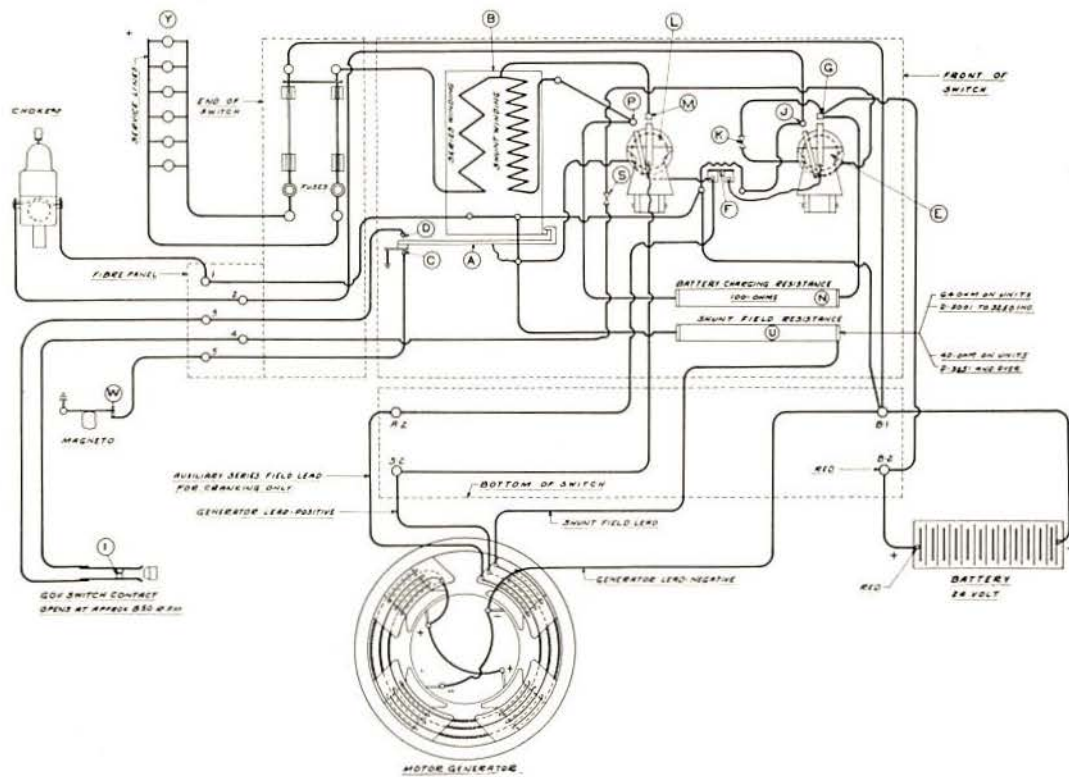
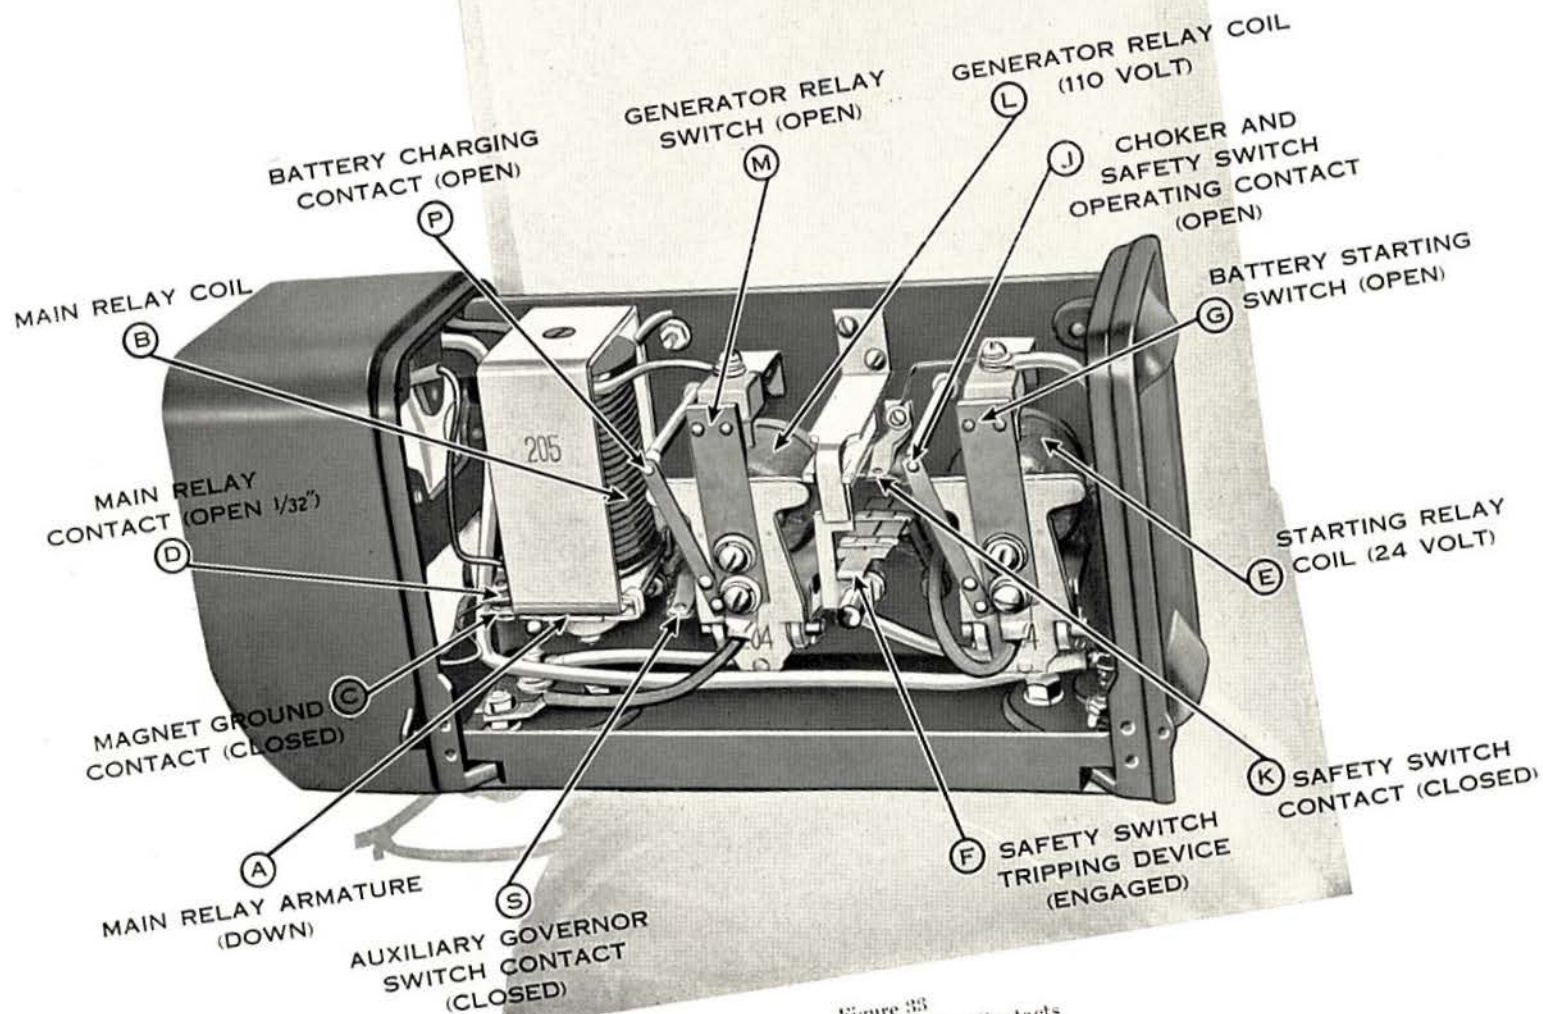
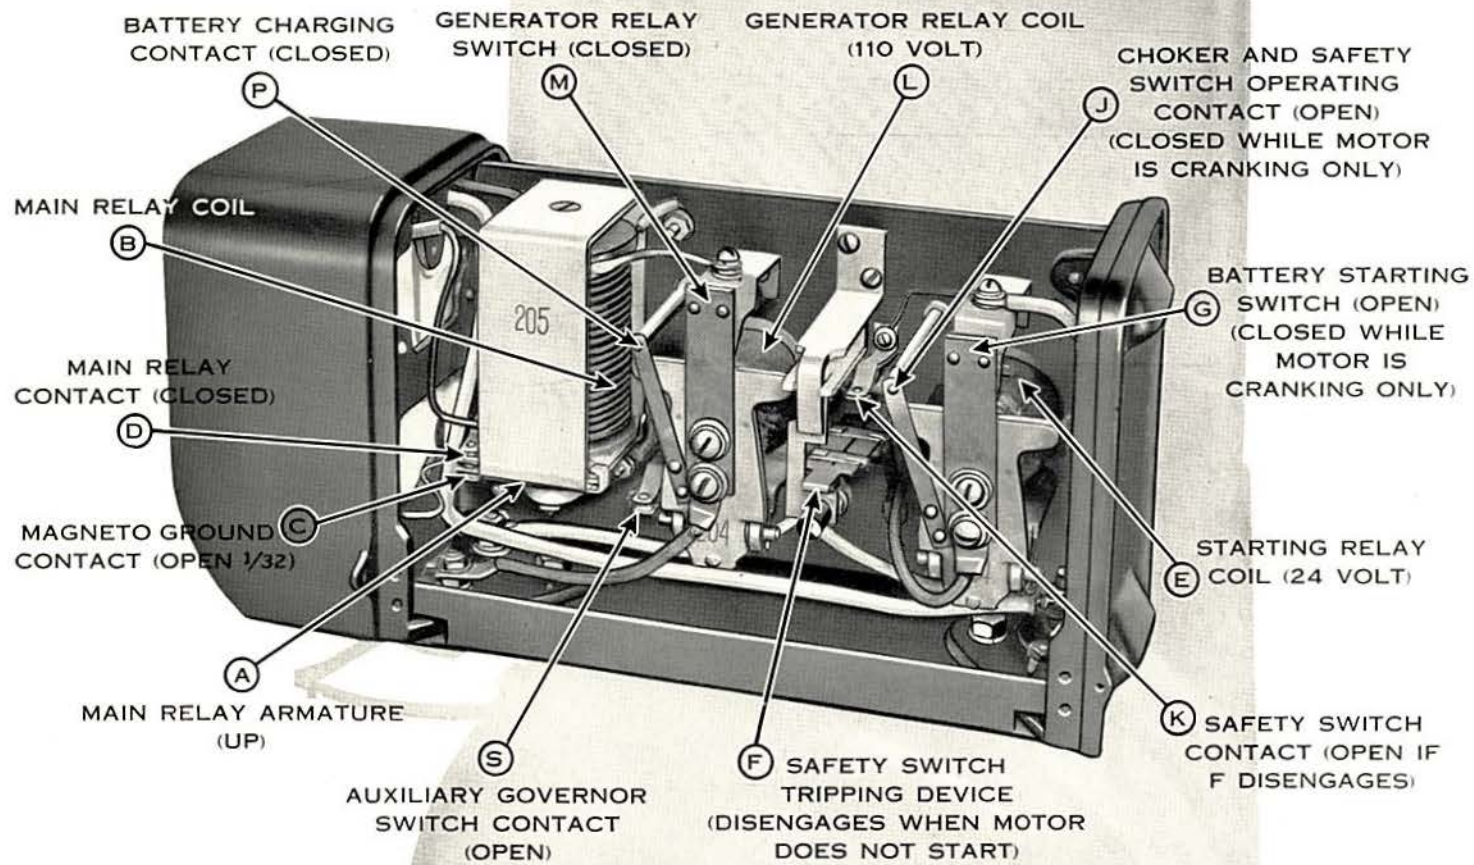

Figure 32
Figure 33
Figure 34
Figures 33 and 34 show the automatic switch with cover removed. The various coils, switches, contact points, etc. are indicated by letters and labels with arrows pointing to the parts designated. Figure 33 shows the position of the switches and contact points when the unit is Not Running. Figure 34 shows the position of the switches and contact points when the unit Is Running. Figure 32 is a wiring diagram of automatic switch and generator for D and DA units.
When the unit is stopped and a light or power appliance is turned on, the battery current passes thru the shunt windings of the Main Relay Coil (B) energizes it and attracts the Main Relay Armature (A). When the Main Relay Armature (A) raises, it separates the Magneto Ground Contacts (C) $1/32"$, thus allowing the ignition current generated by the magneto to flow to the Spark Plugs. As the Main Relay Armature (A) raises it also touches the Main Relay Contacts (D) permitting the battery current to flow thru the Governor Switch Contacts Fig. 32, thru Auxiliary Governor Switch Contacts (S), thru the Safety Switch Contact (K), and thru the Starting Relay Coil (E).
If the plant is installed under reasonably favorable conditions there should be no trouble experienced with the Automatic Switch. If for any reason the automatic feature fails to function, the switch box cover may be removed and the various contact points cleaned with a small file for this purpose. Do not alter the adjustment on any of the contacts, springs or switches unless absolutely sure the trouble is definitely located and then be sure they are adjusted as shown in Figures 33 and 34.